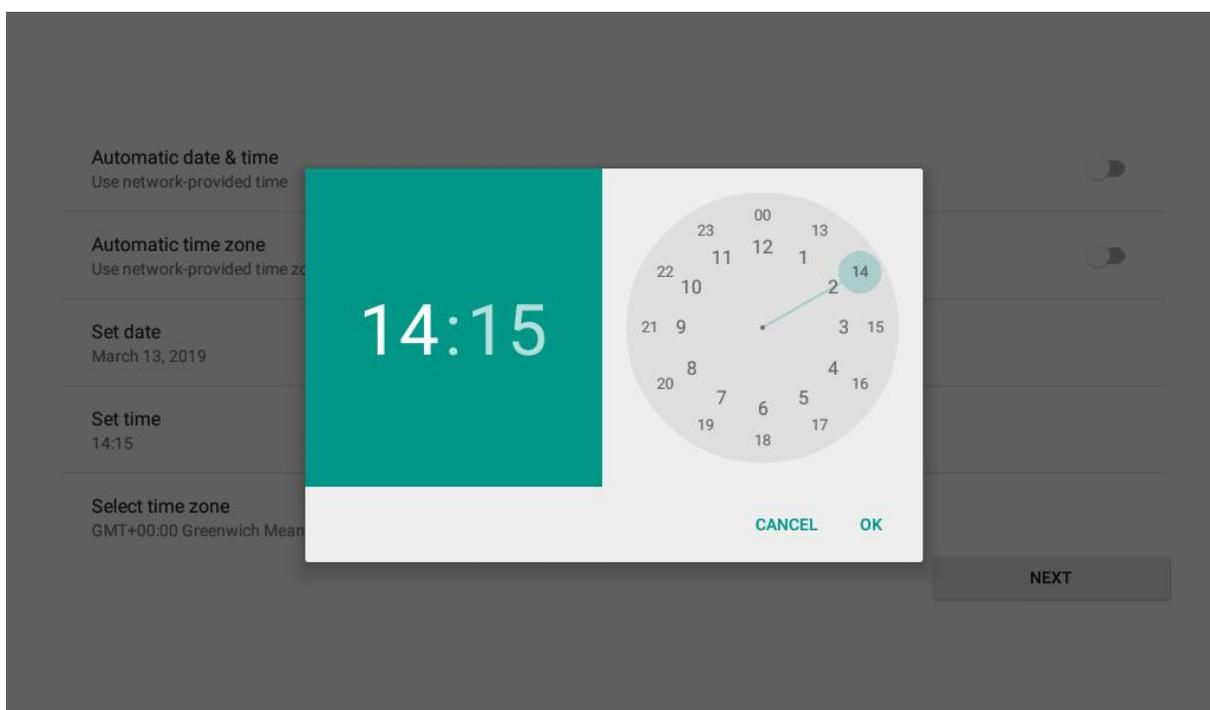

Fig 4.16 Time setting
② Click “Set time” to enter the interface as Fig 4.16, sliding to set the time.